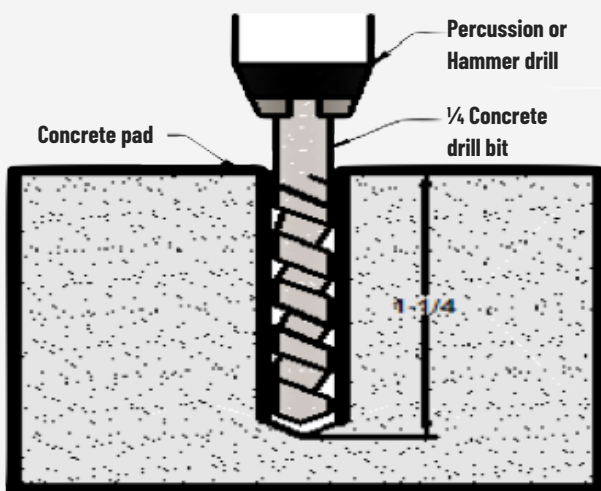

Figure 1 - Drilling xWave mounting anchor hole
2. Using a 1/4" masonry drill bit, drill to a depth of 1- 1/4"  $\pm$  1/8 inch using a percussion or hammer drill. Take caution not to exceed the needed depth, this will adversely affect anchor install height and render the drilled hole unusable. See Figure 1